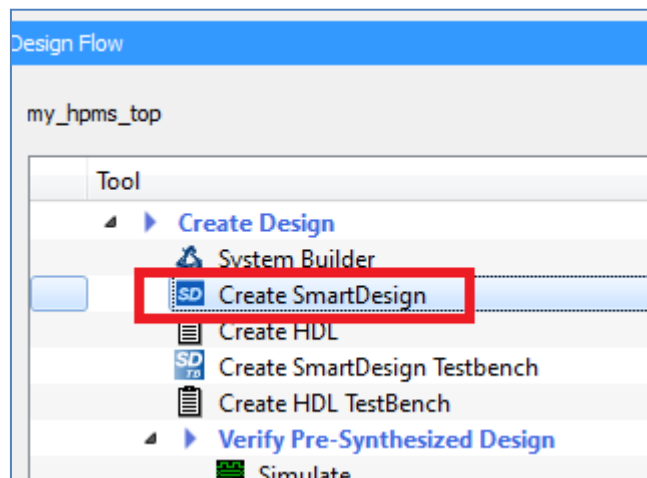

Figure 17 System Builder Block in the SmartDesign Canvas
21. Move to the Design Hierarchy tab and click **Create SmartDesign** in the **Design Flow** window to create a new SmartDesign block, as shown in Figure 17.